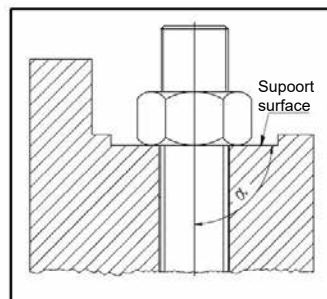

Figure 4: Angle accuracy
4.1.6. Check the angle α of the bolt on the support surface and correct if necessary. (Figure 4)